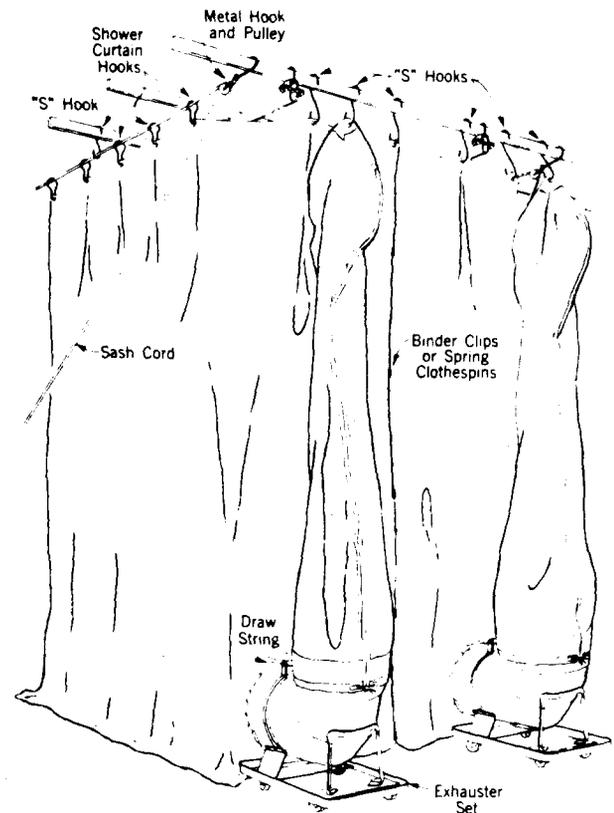

Fig. 4—Curtains With Exhaustor Sets in Place
**4.07** Add insulated "S" hooks as necessary to prevent excessive sagging. The tops of the curtains should be as close as possible to the underside of the overhead cable racks or superstructure in order to minimize the possibility of loosened dust escaping outside the enclosure. (See Fig. 4.)
**4.09** Locate an exhauster set in the aisle on each side of the frame to be cleaned and at the end of the curtain enclosure which has the exhaust openings. (See Fig. 4.)
**4.11** Attach the curtains to the exhauster sets with the intake side of the exhauster inside the enclosure. The draw string should hold the curtains securely attached to the exhauster. (See Fig. 4.) The removable length of metal chain shall be in place in the hem at the bottom of the curtain